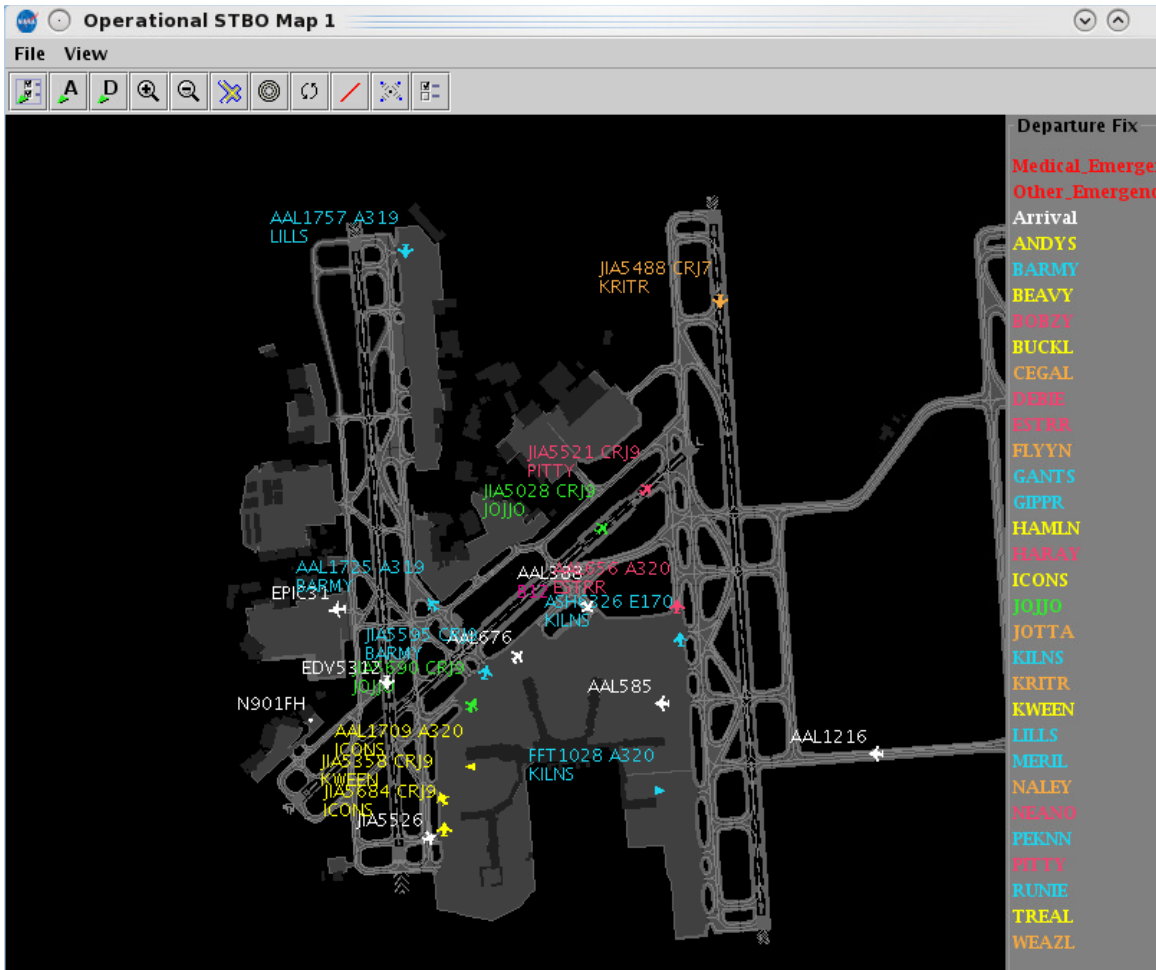

Figure 42. Map legend.
**Step 2:** Click the "Ok" button. The legend will display on the right side of the Map (Figure 42).